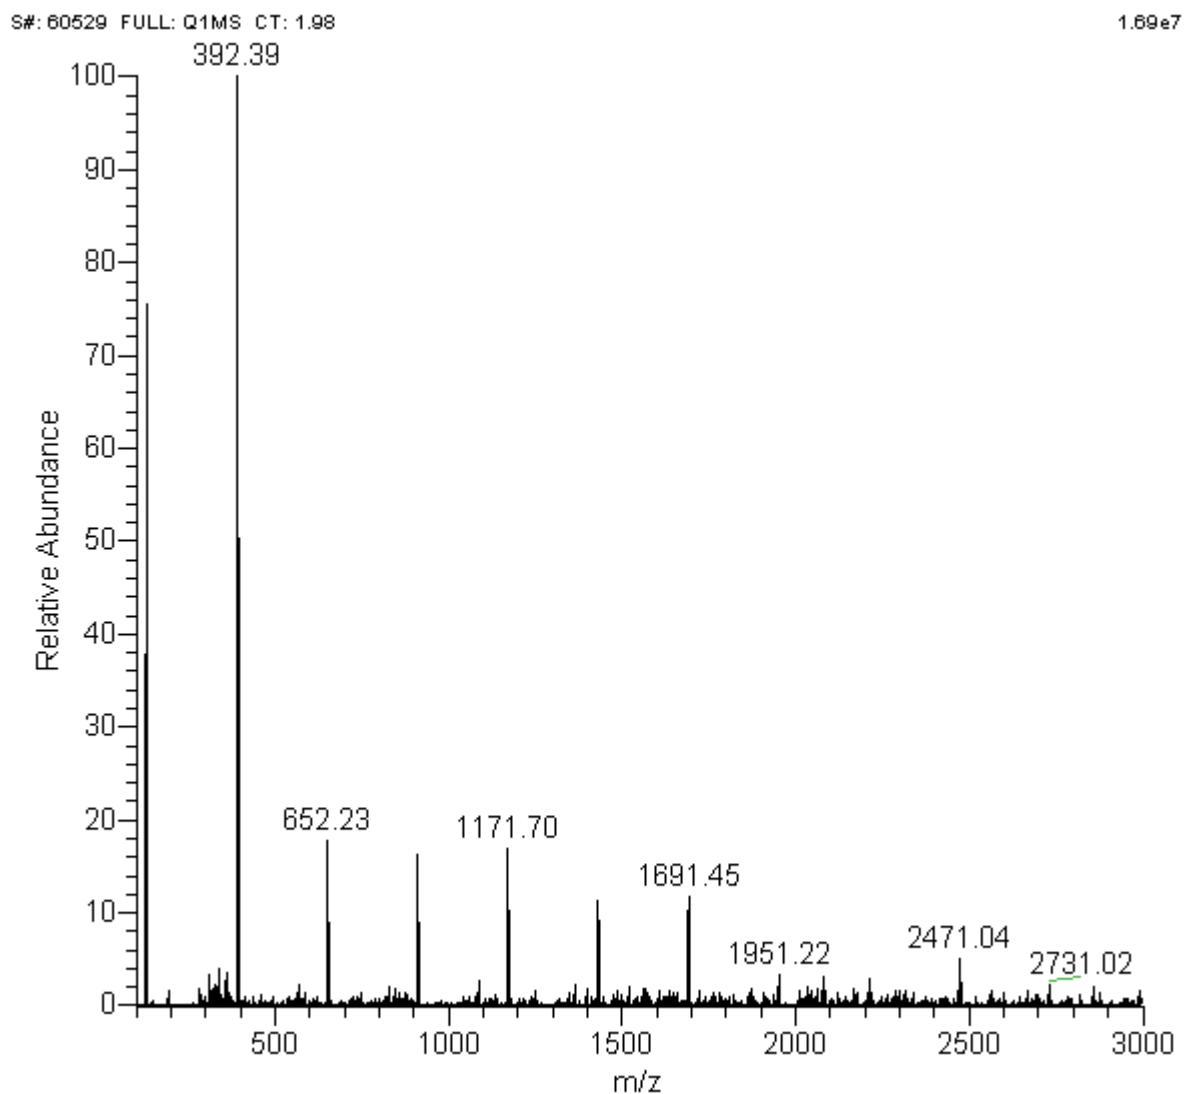

Figure 3-11. Spectrum view, showing a real-time spectrum of cesium iodide tuning and calibration solution
- In the Spectrum view, observe the mass spectrum of the singly charged ions of the tuning and calibration solution (Figure 3-11). The ions are as follows: